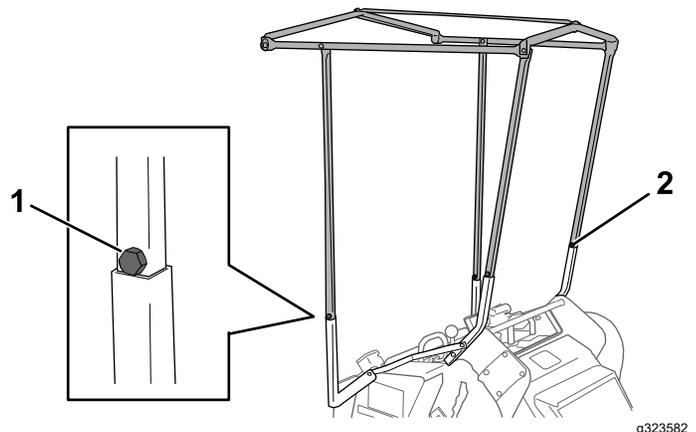

Figure 9
- Install 4 bolts (1/4 x 1 inch) and 4 locknuts (1/4 inch) onto the posts so that the bolt heads face outward. (Figure 9).
- With the assistance of another person, install the posts into the receiver tubes, using the bolts in the posts as stops (Figure 9).